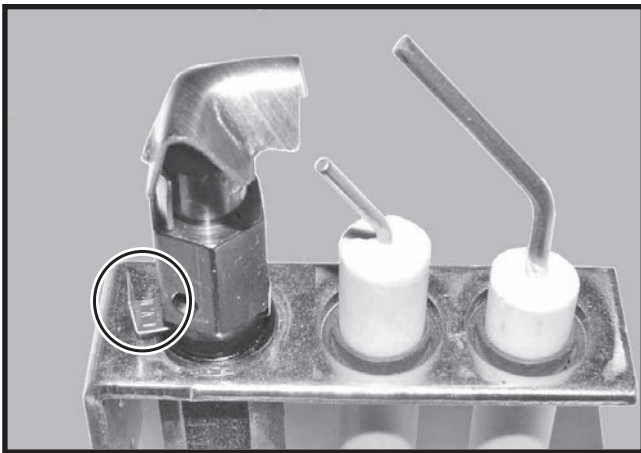
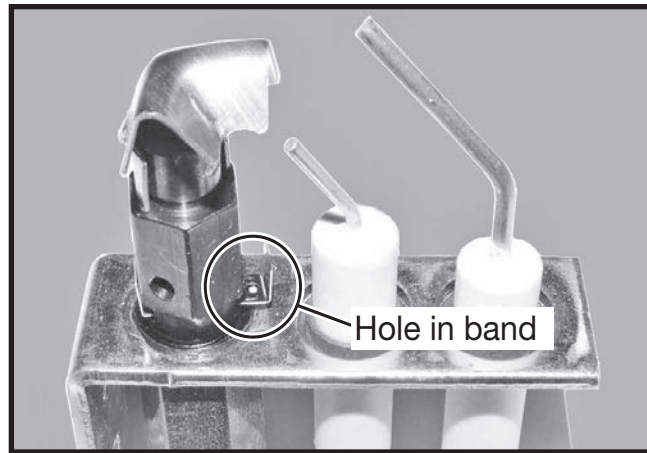

Figure 35: Band in natural gas position.
Figure 36: Band in liquid propane position.
12. Slide the pilot adjustment band over and ensure that the hole in the orifice band is showing. Figure 35 shows the pilot in the natural gas position. Figure 36 shows the pilot in propane gas position.